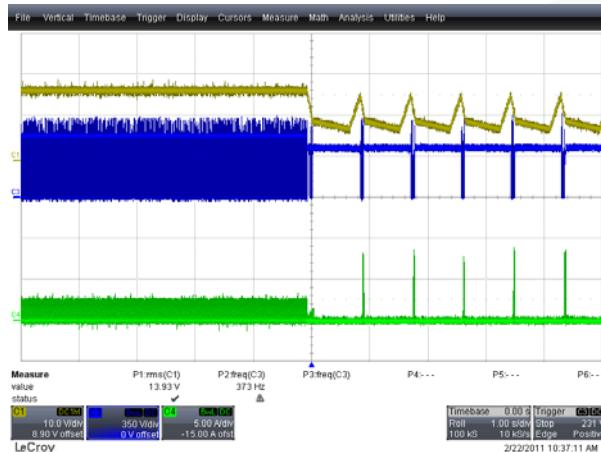
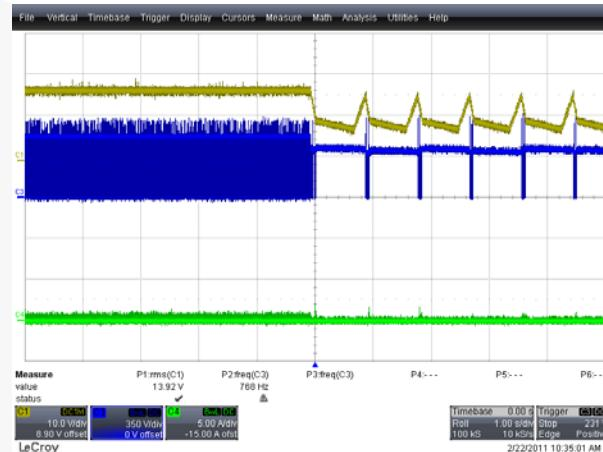

Figure 43. 90VAC / 60Hz, CH1 (Yellow):  $V_{CC(QR)}$ , CH3 (Blue):  $V_{DS(QR)}$ , CH4 (Green):  $I_{DS(QR)}$
Figure 44. 277VAC / 60Hz, CH1 (Yellow):  $V_{CC(QR)}$ , CH3 (Blue):  $V_{DS(QR)}$ , CH4 (Green):  $I_{DS(QR)}$
Figure 43 and Figure 44 show the  $V_{DS}$  and  $I_{DS}$  waveforms of the MOSFET (QR) at short-load condition. The IC repeats ON and OFF functions in this mode.